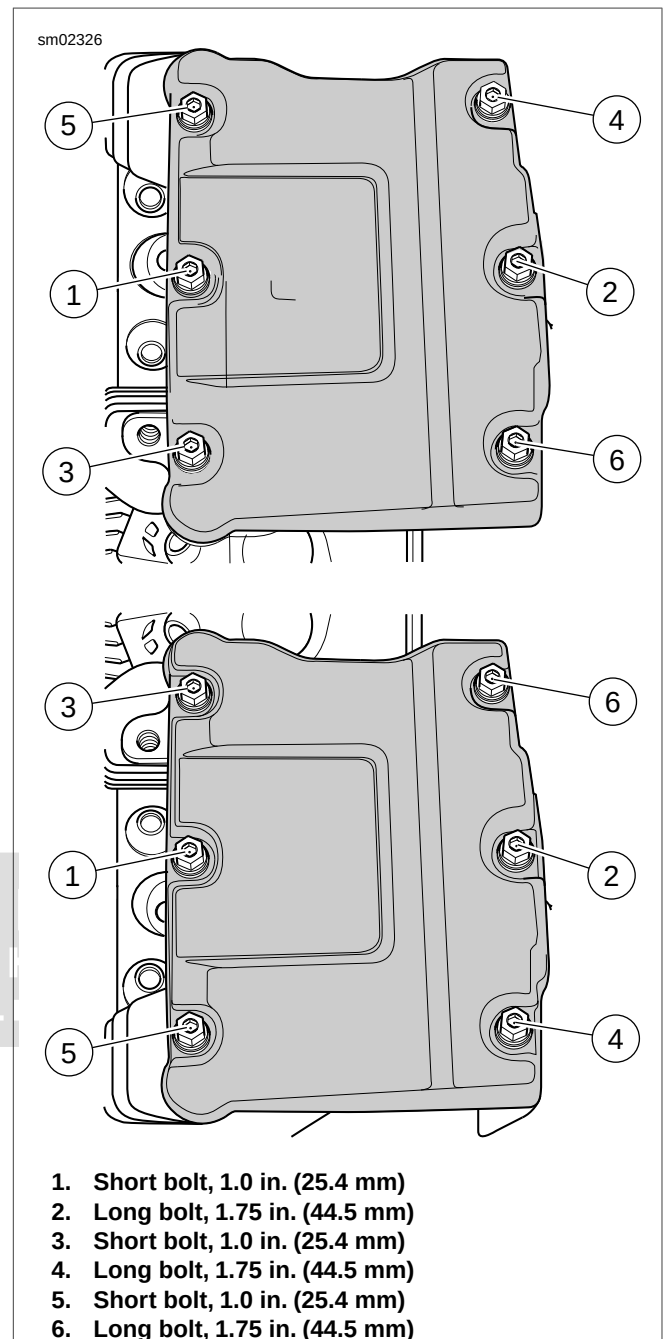

Figure 3-45. Rocker Cover Bolts Torque Sequence
1. See Figure 3-45. Alternately tighten the two bolts to secure breather assembly to 90-120 in-lbs (10.2-13.6 Nm).
3. Figure 3-45. Install rocker cover bolts.